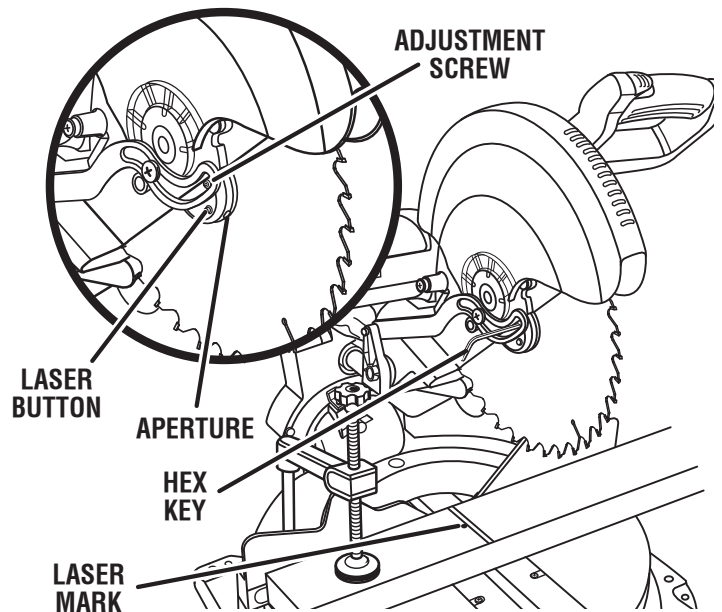

Fig. 49
See Figure 49.
- Rotate the blade by hand until you can push and hold the laser button and the laser is near the center of the workpiece as shown in figure 49.
- To adjust the laser, turn the adjustment screw counter-clockwise or clockwise using the hex key (1/16 in.) provided.
- Once aligned, remove and store the hex key (1/16 in.), and lower the blade guard.